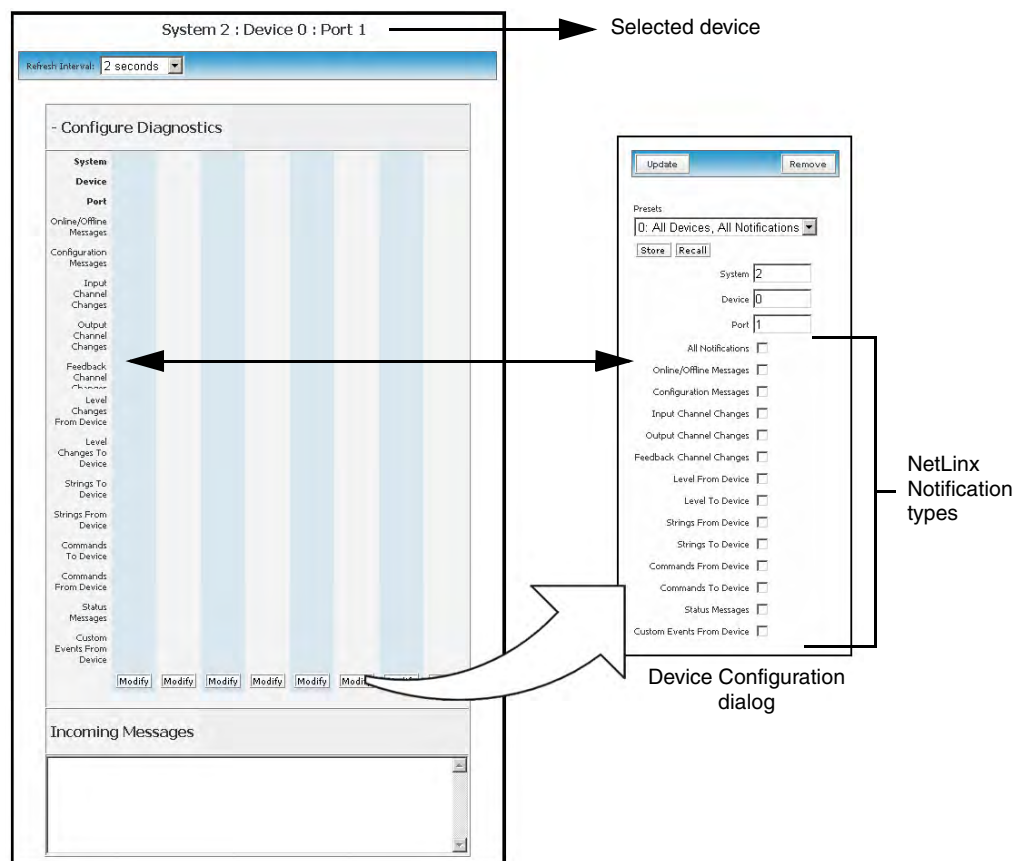

FIG. 53 Diagnostics dialog (showing modify popup)
3. Click the **Diagnostics** button to open the Diagnostics dialog (FIG. 53).